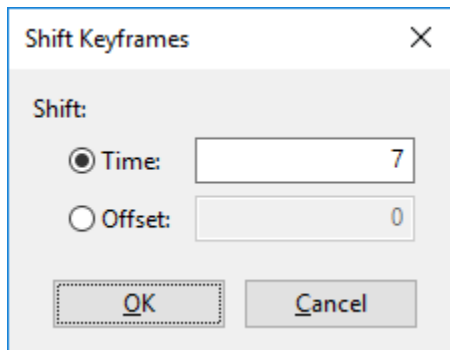

Figure 5-2 Shift Keyframes dialog
2. Right-click the keyframes and select **Shift Times**. This will open the **Shift Keyframes** dialog as shown in Figure 5-2.